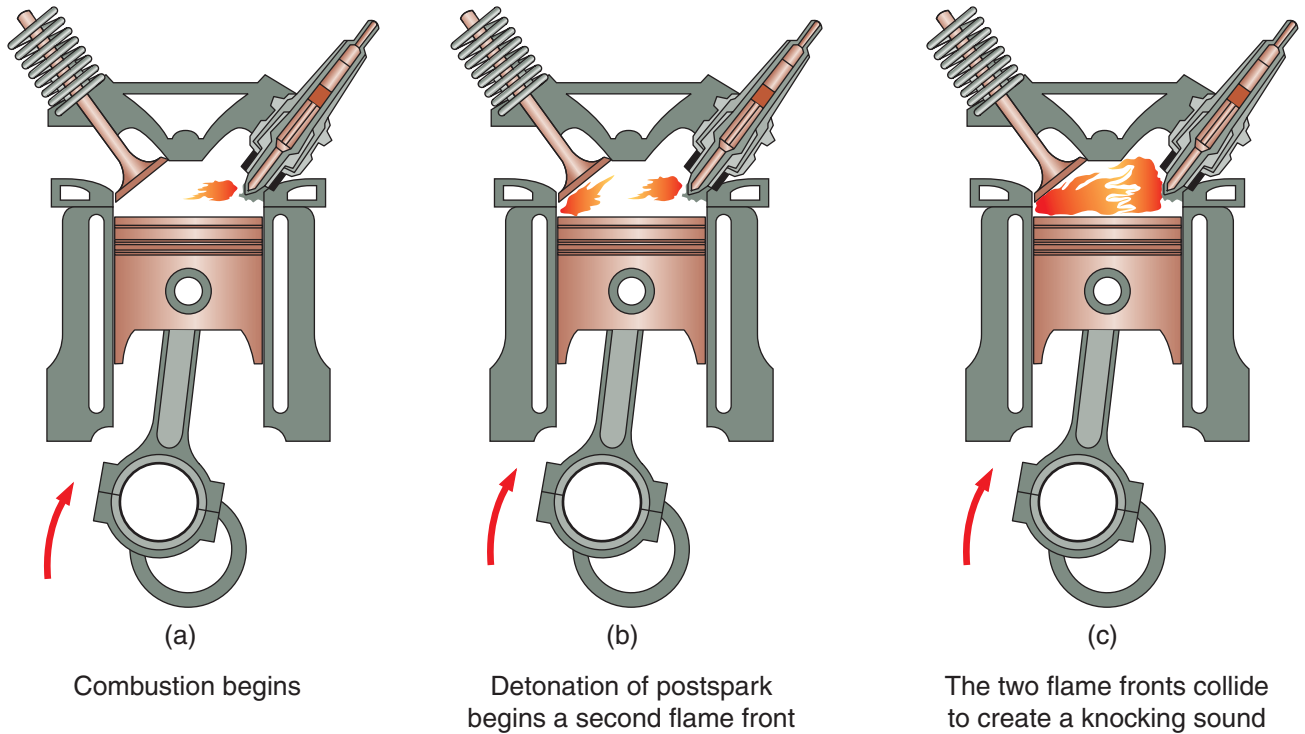

Figure 12-60 The phases of detonation.
- **Detonation.** In the engine condition known as **detonation**, the air–fuel mixture fails to burn smoothly. Instead, the mixture begins to burn normally in one area of the combustion chamber and, as the pressure and heat in the combustion chamber increase, it ignites a second time in another area of the combustion chamber (this is also sometimes called “post-spark”). Thus, two separate flames burn at the same time in the chamber (Figure 12-60), even though they were initiated at different times (these events occur within a split second of each other). This should not be confused with the use of two spark plugs in an engine, which would create normal combustion because of the fact that the combustion process was initiated when it was supposed to. When the two flames collide, a shock wave is created. The shock wave of detonation effectively hammers the top of the piston and the piston rings. Eventually, this hammering, or detonating, damages the piston and rings. The key point to understand is that detonation occurs *after* the initiation of normal combustion.